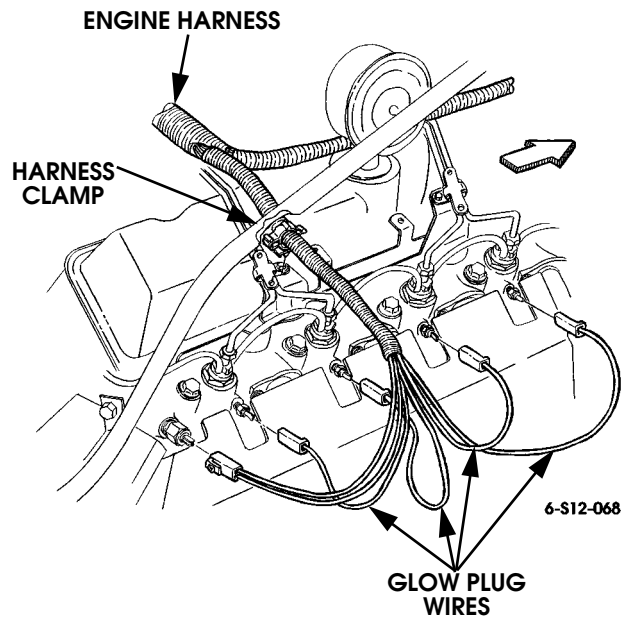

Figure 12-63: Engine Harness Connections at Passenger Side (Non-Turbo)
- wire harness clamps and retainers (Figures 12-63 and 12-64)